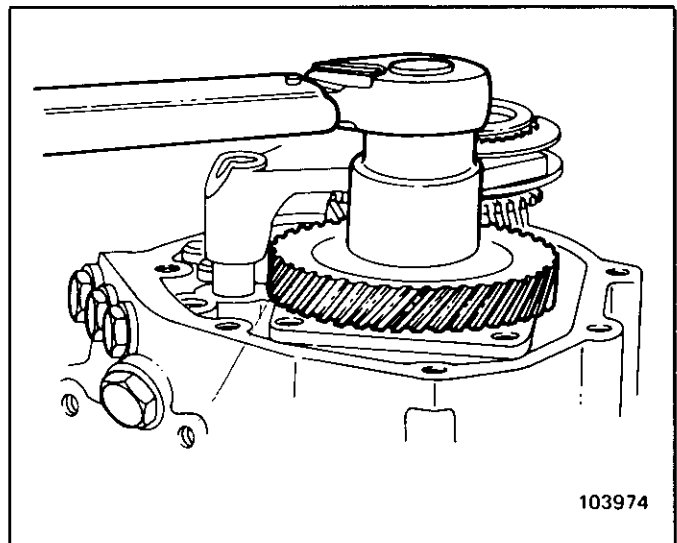

Figure 10 Fifth Gear Retaining Nuts
4. Using a screwdriver, shift transaxle into gear. Remove fifth speed drive and driven gear retaining nuts from the input and output shaft (Figure 10) and discard the retaining nuts. Shift transaxle back into neutral, aligning the detents on the shift rails.